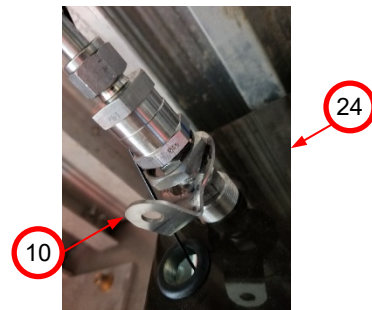

Figure 8a.
15. Use a wrench to remove fasteners to remove fuel system chassis harness ground eyelet (not shown) from fuel fill panel ground bracket (10). *Figure 8a*